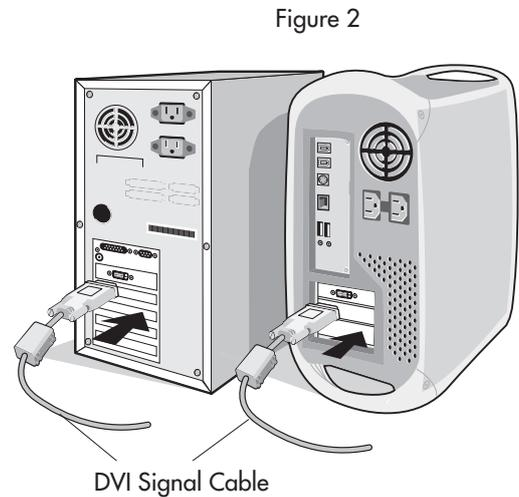

Figure 2
2. **For the PC or MAC with DVI digital output:** Connect the DVI signal cable to the connector of the display card in your system (Figure 2). Tighten all screws.